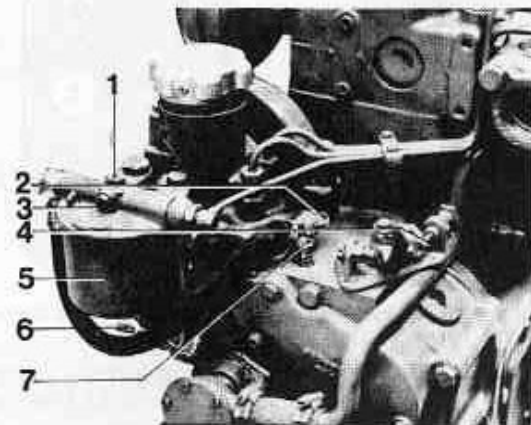

Fig. 23
**Change the fine filter after every 100 hours running, or at least once each season.** Thoroughly clean the whole of the outside of the filter body (see Fig. 23). Remove the centre bolt on the cover and take down the container and filter. Clean the inside of the container thoroughly. Check to make sure that the packings are not damaged. Fit a new filter. Vent the fuel system (see point 10).
1. Open the vent screw on the fine filter, Fig. 23.